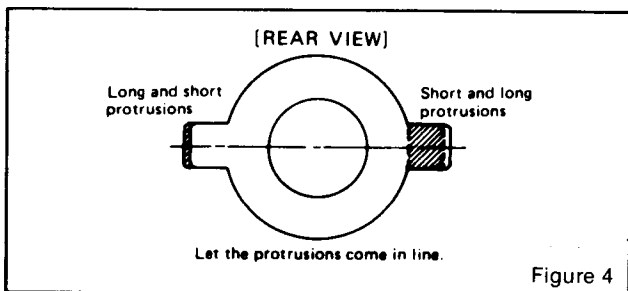

Figure 4
1.4 Bring the long and short purity tab protrusions in line with each other to obtain near-zero magnetic field (figure 4) (In some cases bring the flat and indented tabs together to obtain zero field). Protrusions can then be vertical, horizontal or at any convenient angle to start.